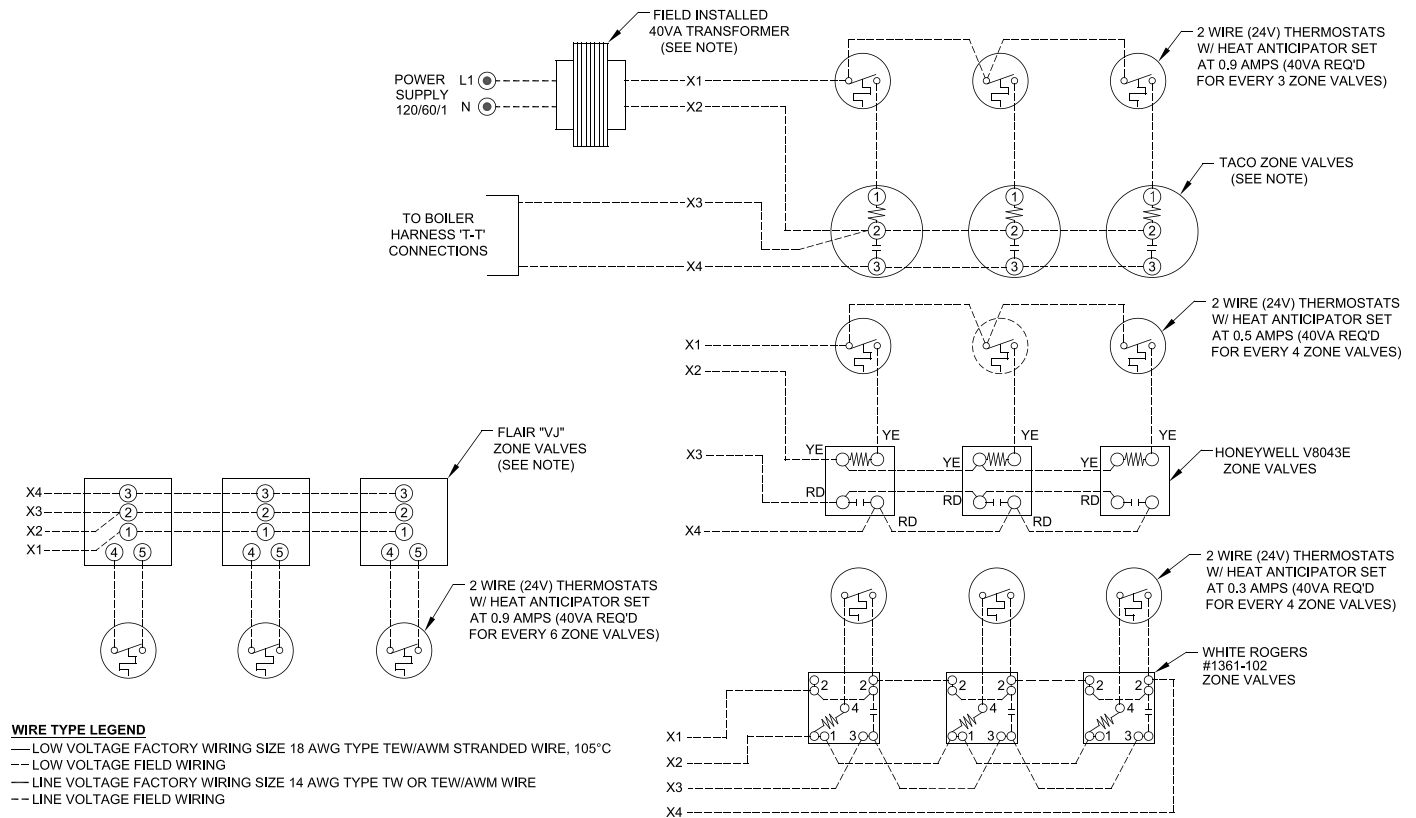

Figure 10: Wiring Schematic, Zone Valves
- D. For installations using zone valves** provide separate transformer for zone valve wiring. Consult zone valve manufacturer for assistance. See Figure 10.